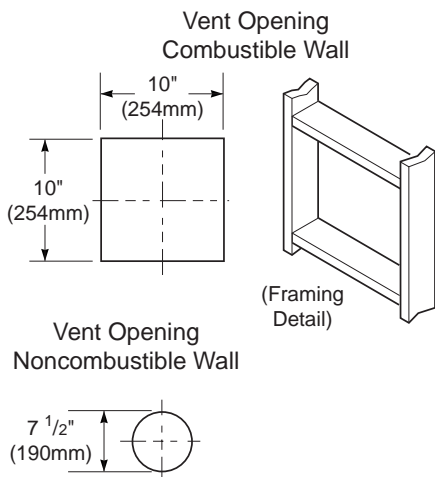
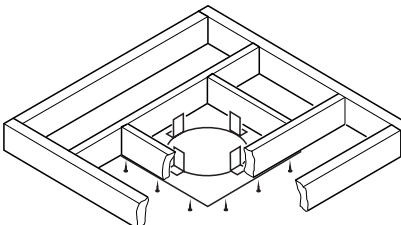

Figure 12 - Vent Opening Requirements
Figure 22 - Installing Firestop
- Attach vent pipe assembly to the fireplace. Set fireplace in front of its permanent location to insure minimum clearances. Mark the wall for a 10" square hole (for noncombustible material such as masonry block or concrete, a 7 1/2" diameter hole is acceptable). See Figure 12. The center of the hole should line up with the centerline of the horizontal rigid vent pipe. Cut a 10"x10" (254mm x 254mm) square hole through combustible exterior wall (7 1/2" [190mm] diameter hole if noncombustible). Frame as necessary (see Figure 12).
1. Cut a 10" square hole in the ceiling using the locating hole as a center point. The opening should be framed to 10"x10" (254mm x 254mm) inside dimensions, as shown in Figure 12 on page 9 using framing lumber the same size as the ceiling joists. If the area above the ceiling is an insulated ceiling or a room, nail firestop from the top side. This prevents loose insulation from falling into the required clearance space. Otherwise, install firestop below the framed hole. The firestop should be installed with no less than three nails per side (see Figure 22).
3. Cut a hole in the roof using the locating hole as a center point. (Cover any exposed open vent pipes before cutting hole in roof.) The 10"x10" hole must be measured on the horizontal; actual length may be larger depending on the pitch of the roof. There must be a 1" clearance from the vent pipe to combustible materials. Frame the opening as shown in Figure 12, page 9.